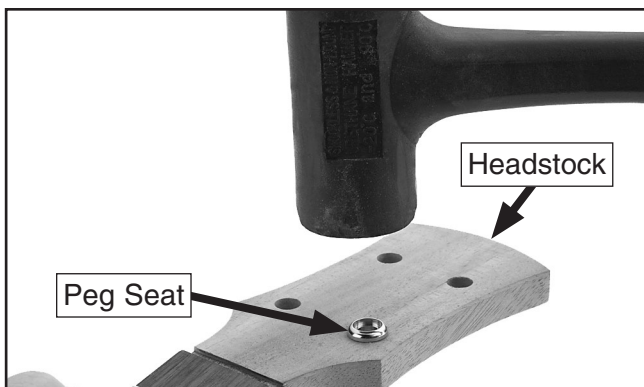

Figure 37. Installing peg seat into front of headstock.
1. Using a non-marring mallet, tap each of the four peg seats into the pre-drilled holes on the front of the headstock, as shown in **Figure 37**.